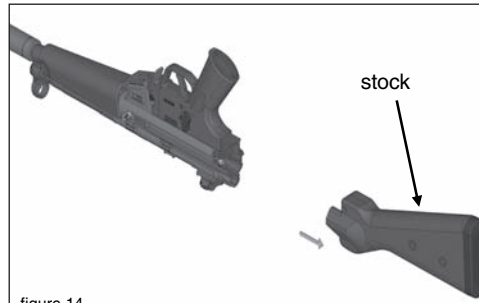
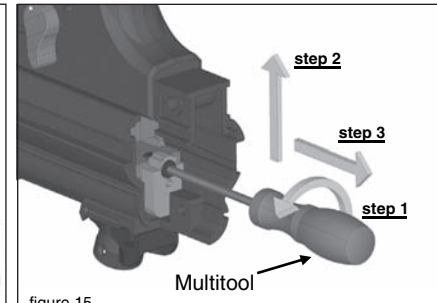

figure 14
figure 15
5. Remove the stock (*figure 14*) and unscrew the breech-fixing-part with the multitool (*figure 15*)
6. Put the breech fixing part into the receiver with the multi-tool and move the breech fixing part into its slot exactly infront of the breech housing (see figure 15 and 16 on page 23)